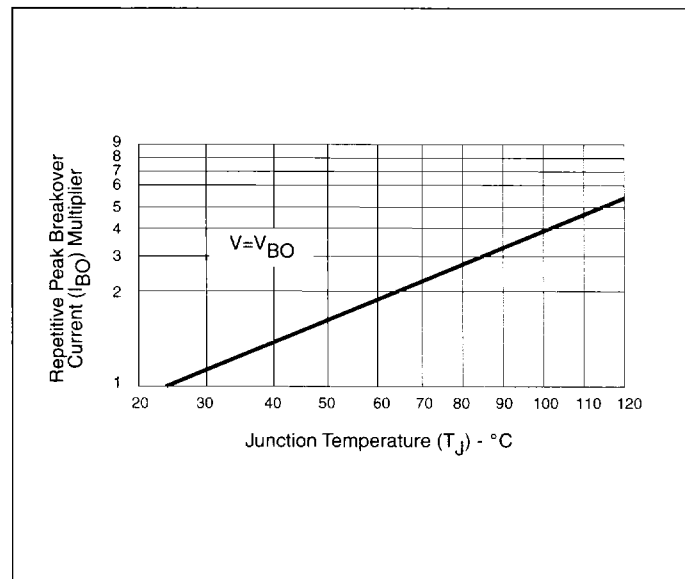

Figure 9.7 Normalized Repetitive Peak Breakover Current vs Junction Temperature
- (2) See Figure 9.7 for I_{BO} vs junction temperature.